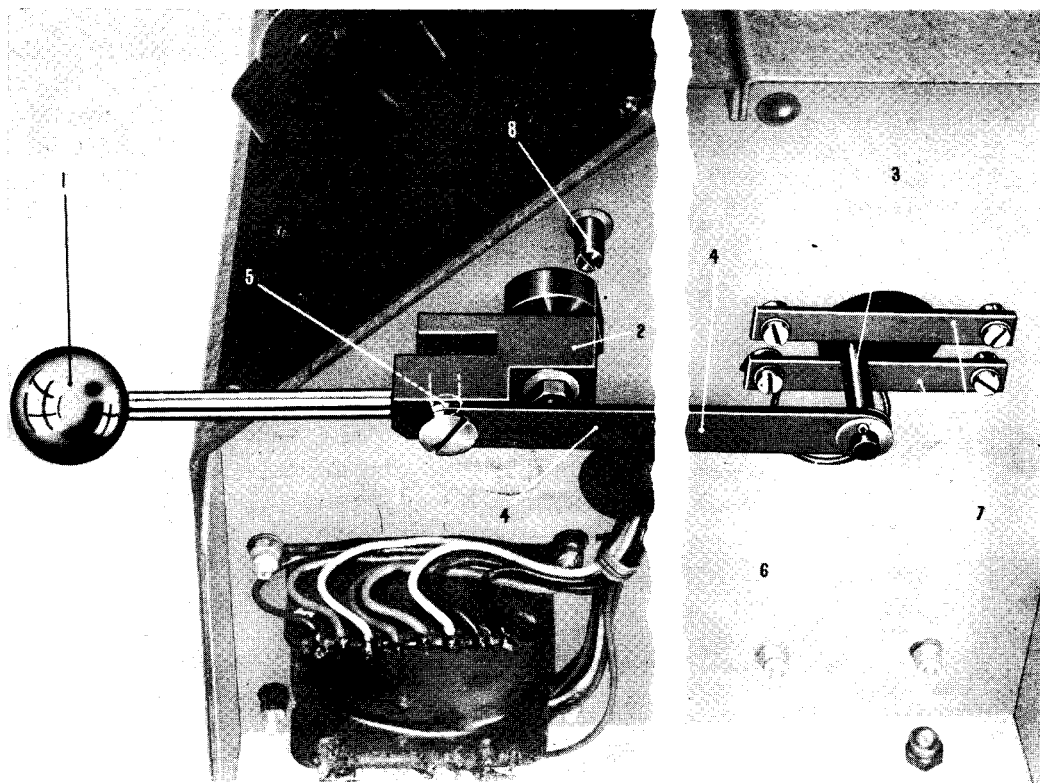

FIG. 8.—GATE SWITCH ACTUATING MECHANISM.
Fig. 8 shows the gate in the closed position. The gate switch lever (1) is screwed into a steel block (2) which is coupled to the gate pin (3) by the link bar (4). The link bar is mounted eccentrically in relation to the block pin so that when the lever is depressed the moving half of the gate is pulled forward. With the gate switch in the open position